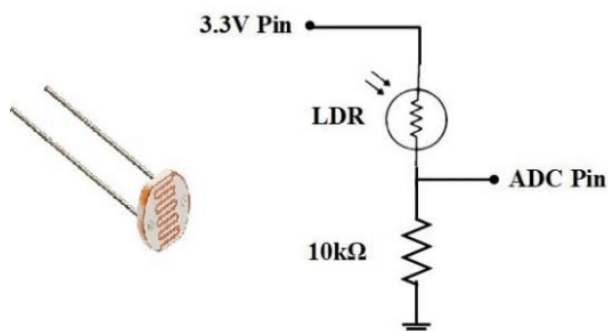

Figure 3.7: LDR Voltage Divider Circuit
- Connect the output of the voltage divider circuit for the LDR (Figure 3.7) to PA6.